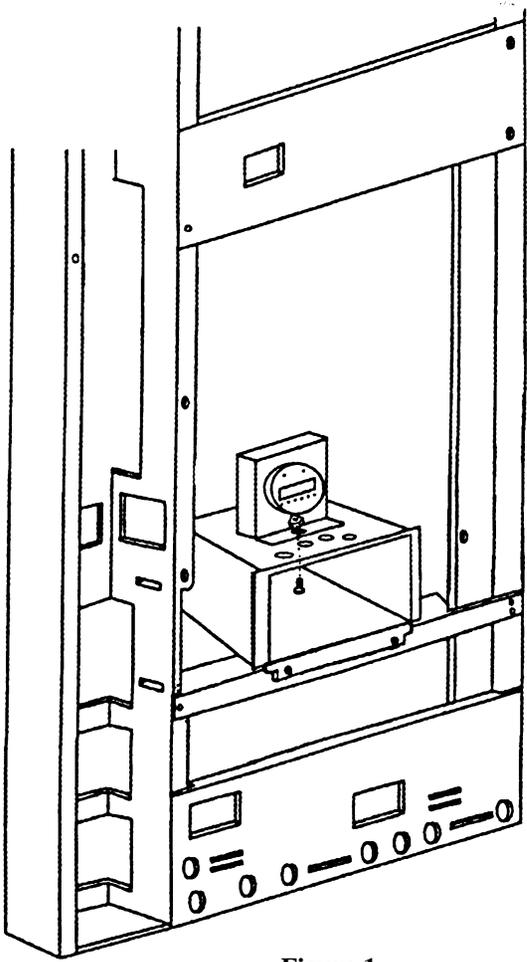

Figure 1
4. A. On large port doors: Remove the carriage bolt that secures the top of closure strip to the delivery port box. See figure 1, page 2.
6. Reinstall the carriage bolt and nut to secure the kit to the top of the delivery port box. See figure 1 or 2, page 2.